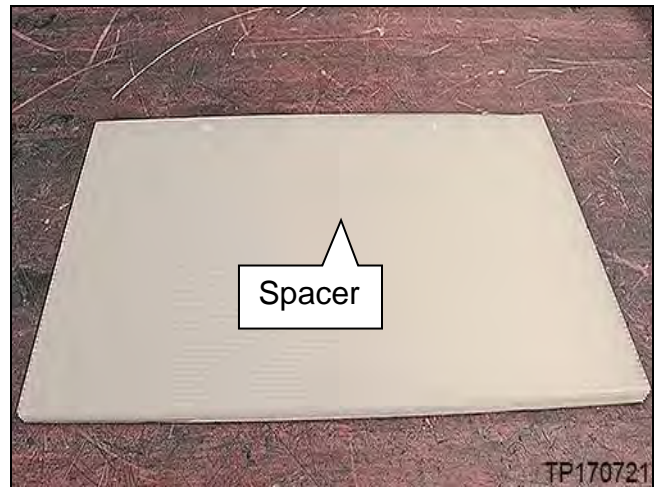

Figure 6N
IMPORTANT: Step 7 is for kits that have a separate spacer (Figure 6N). In later kits this spacer will be part of the Lower board and step 7 will not be used.
7. Take the spacer (Figure 6N) out of the shipping box and place on the work bench where the sub-assembly will be installed, and then place the lower board top of the spacer as shown in Figure 7N.